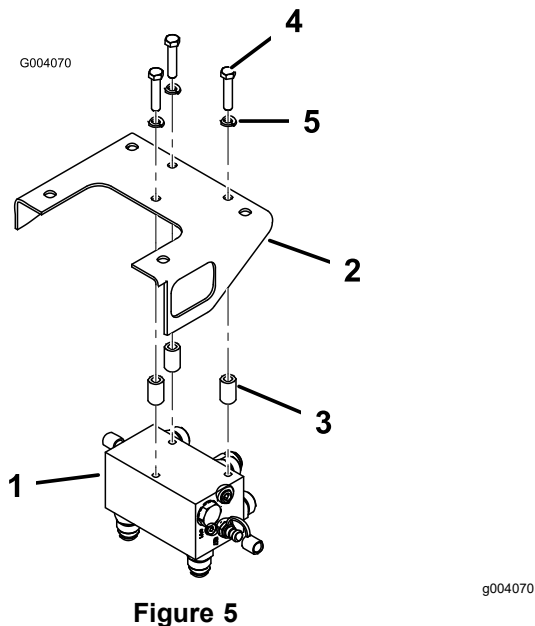

Figure 5
- Mount the manifold assembly to the underside of the manifold bracket with 3 bolts (3/8 x 1-3/4 inches), lock washers (3/8 inch) and spacers. Position the spacers between the manifold bracket and the top of the manifold. The manifold is to be positioned so the fittings point to the rear, and down (Figure 5).